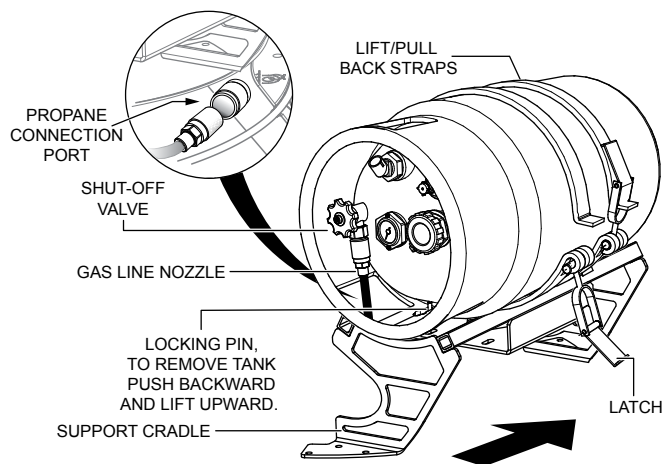

Figure 1. Propane Tank Removal
2. **CLOSE** shutoff valve on propane tank (Figure 1).